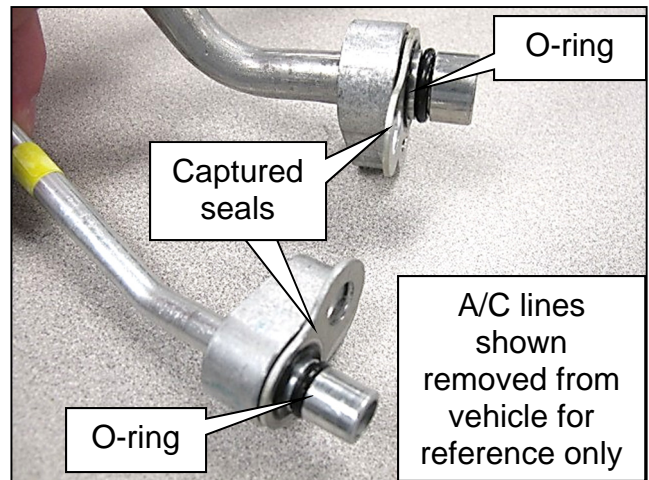

Figure 15
- Install new O-rings and captured seals onto the high pressure pipe and the high pressure flex-hose connections (Figure 15).